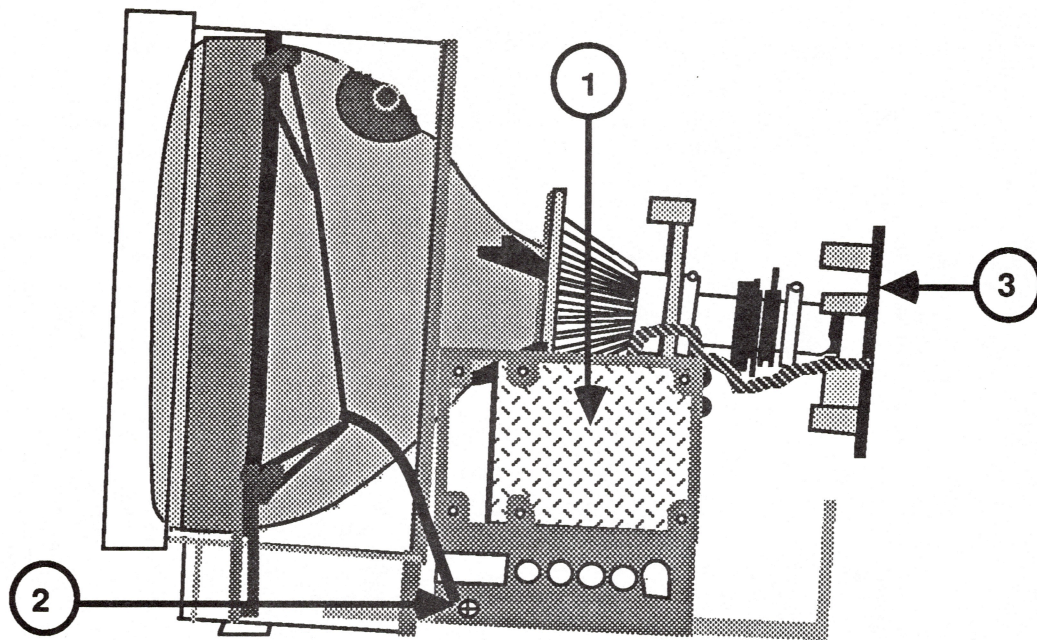

FIGURE 9
4. Locate the power supply board (Figure 9, #1).
9. Remove the screws (Figure 9, #2) which secure the CRT ground straps to both sides of the main chassis. (There is one screw on each side.)
10. Carefully pull the CRT socket board (Figure 9, #3) away from the CRT neck until it clears the neck base.